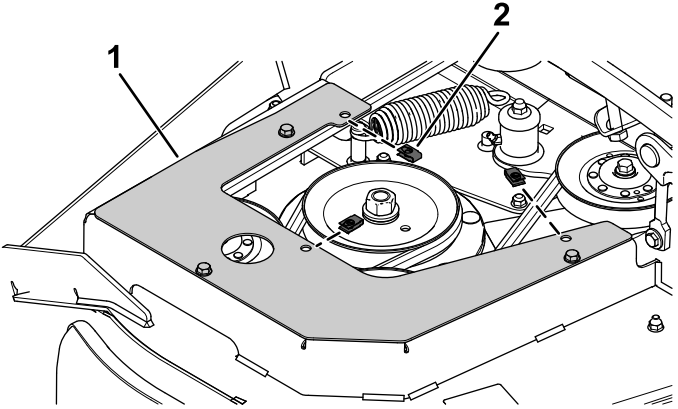

**Figure 3**
1. Secure the right pulley-mount guard to the belt guard using the previously removed 3 self-tapping screws (Figure 3).